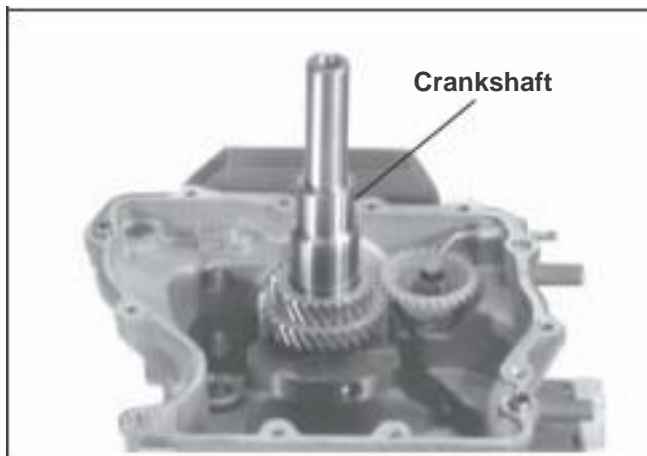

Figure 9-53. Removing Crankshaft.
2. Remove the crankshaft from the crankcase. See Figure 9-53.